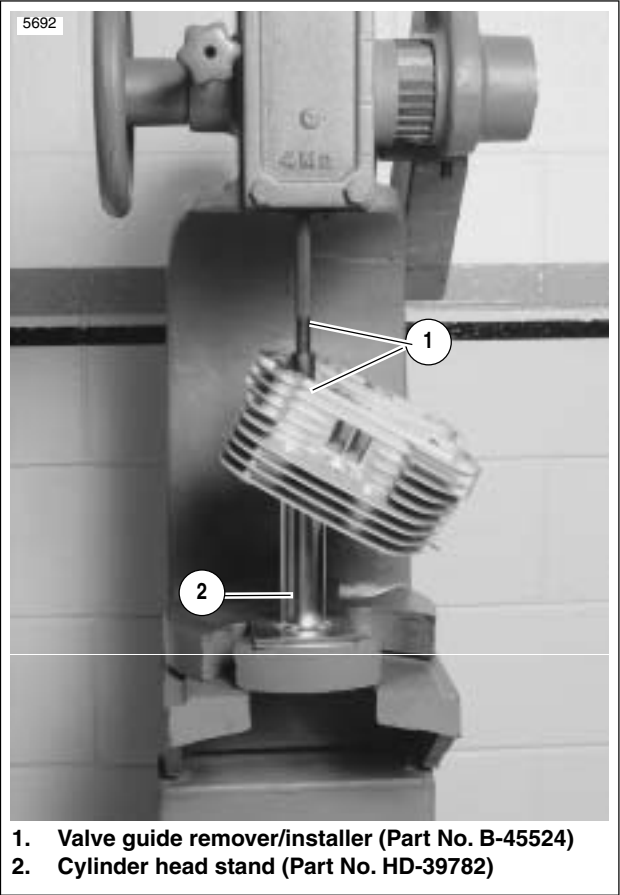

Figure 3-58. Installing Shoulderless Valve Guide
4. See Figure 3-58. Install shoulderless guides using VALVE GUIDE INSTALLATION TOOL (Part No. HD-34731) and DRIVER HANDLE (Part No. HD-34740). Press or drive guide until the tool touches the machined surface surrounding the guide. At this point, the correct guide height has been reached.